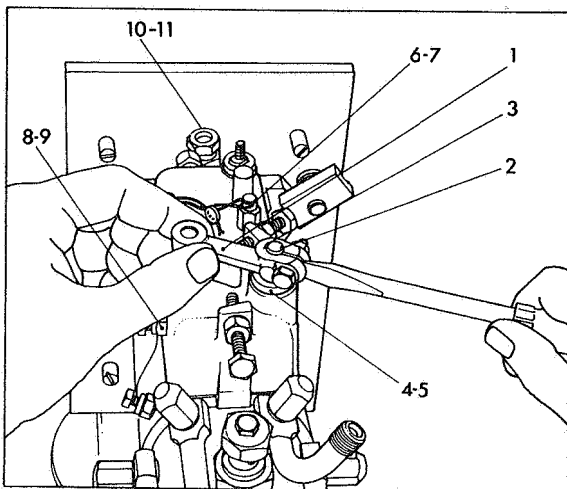

Fig 35 Removing throttle arm
Insert large screw driver blade as shown in Fig 35. Gently ease open and remove throttle arm (1) from throttle shaft (2). Remove shaft key (3), throttle shaft circlip and throttle cap (4 & 5). Remove lead seals and locking wire from cover stud nuts (6). Unscrew and remove cover stud nuts, stud washers (7), vent screw assembly and washer (8 & 9), and drain connection and washer (10 & 11).